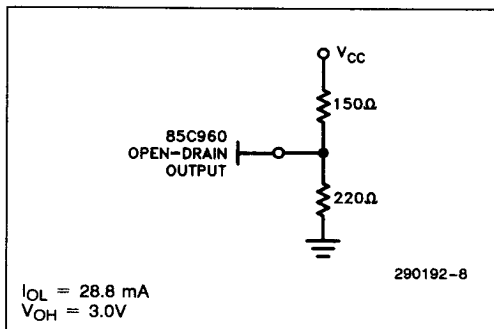

Figure 8. RDY # Pullup/Pulldown Resistors
RDY# is an open-drain I/O pin, which must be connected to pullup and pulldown resistors as shown in Figure 8. During a wait-state access, RDY# is pulled high to cause the controller to extend the current access so that the memory or peripheral chip has time to present data to the bus (read), or sample data on the bus (write). RDY# is released on the
7. RDY# is an open-drain output. Specified time includes RDY# output float delay and pull-up/pull-down resistors (Figure 8). RDY# remains low for a minimum of 10 ns at the start of a  $T_r$  state and goes high by CLK2a of the next  $T_x$  state.